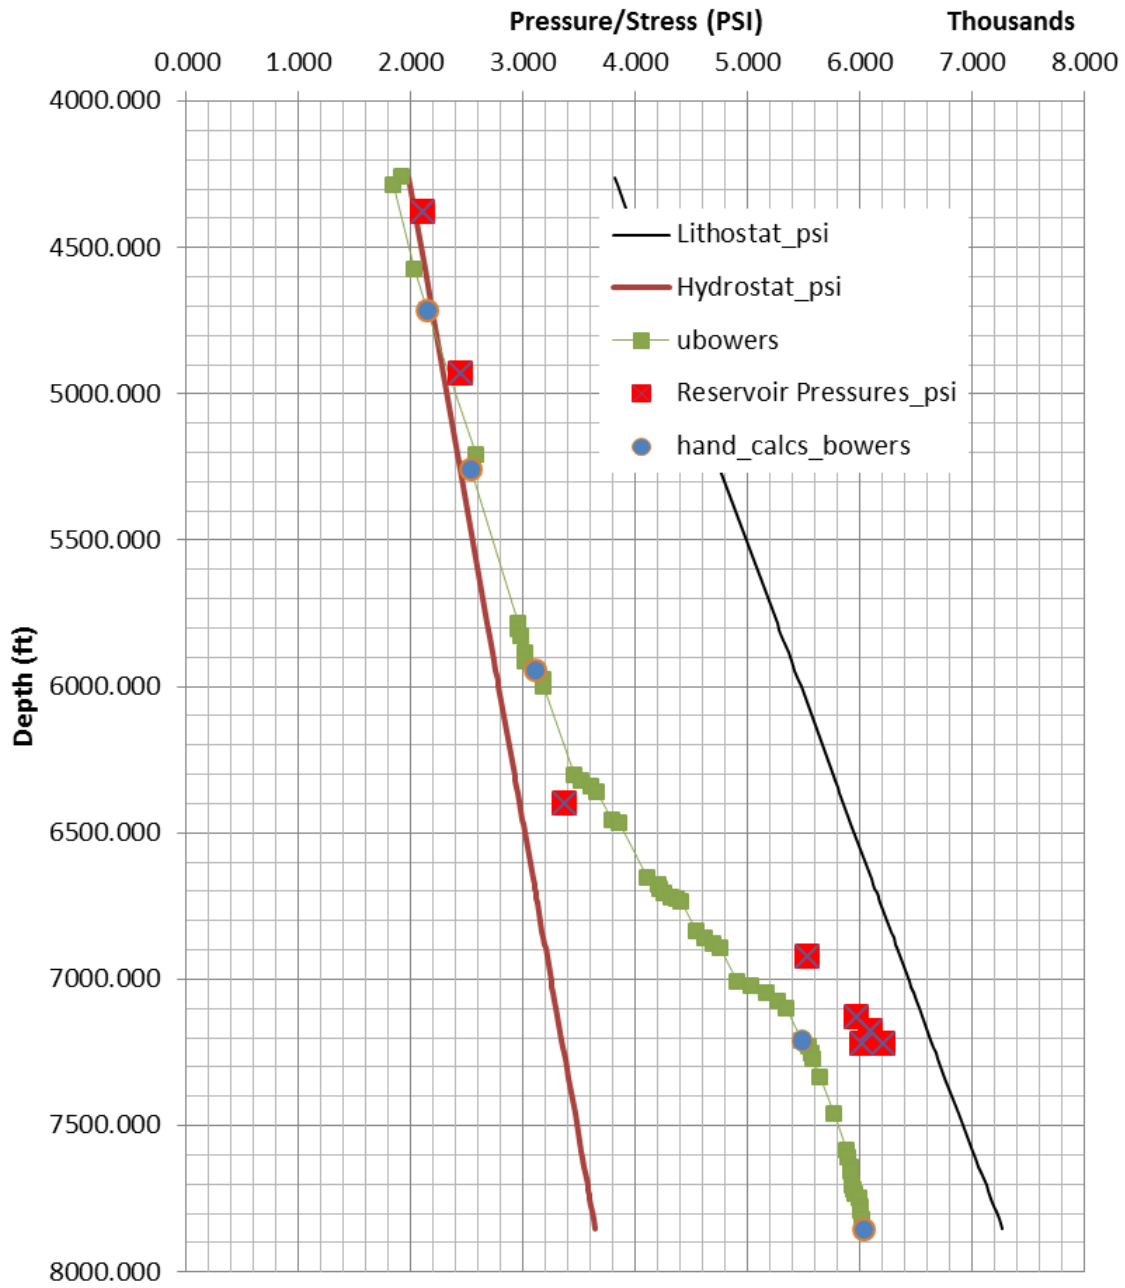
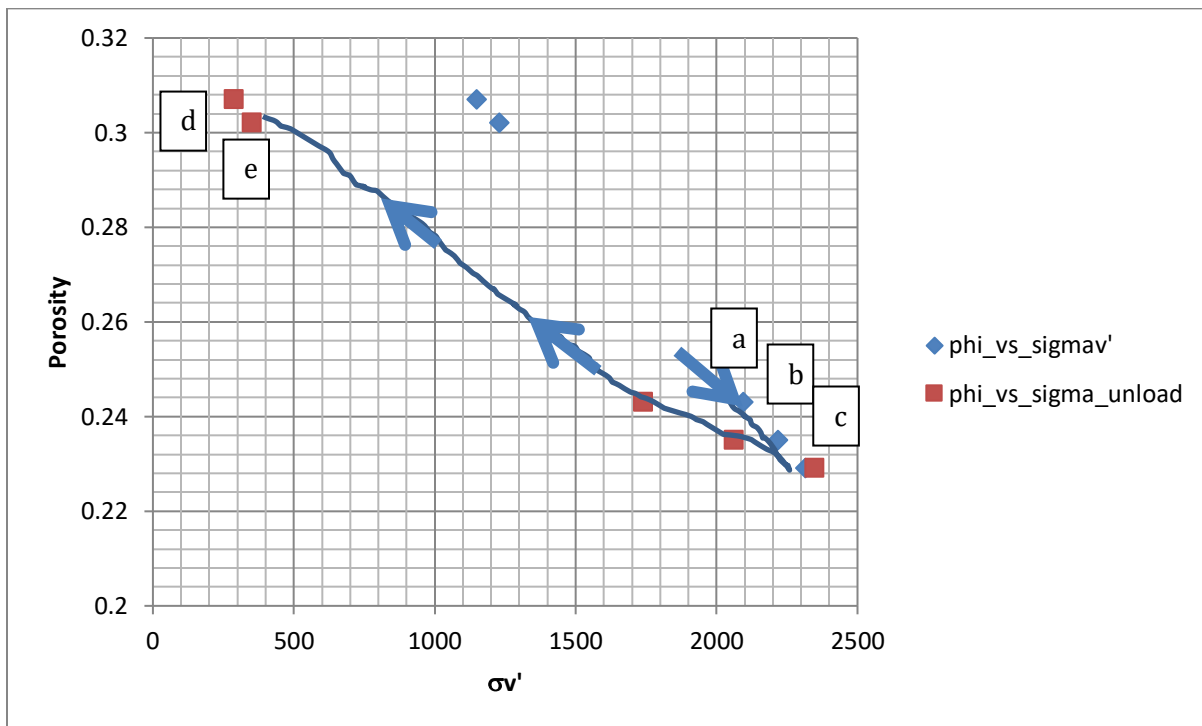

Fig. 2: Pressure prediction from Bowers technique with no unloading.
Fig. 3: Plot porosity vs. effective stress for Table 1. Label points a through e.
1. To consider the process of unloading, plot porosity (n) vs. effective stress from Table 1 label each point (a, b, c, etc). Imagine that you are a sediment package being buried along the pressure-depth profile shown in Figure 2. What is the evolution of your effective stress?
- Calculate the value of the pore pressure and fill in the table below and then plot these values in Figure 2. A spread sheet is provided for the below calculations. Please plot these values in Figures 3 and 4. Please think about how the rock is buried. Next, plot the loading history of the material predicted by this model. Points above 6000 feet should lie on the original compression line and points below 6000 feet should lie on the unloaded line.